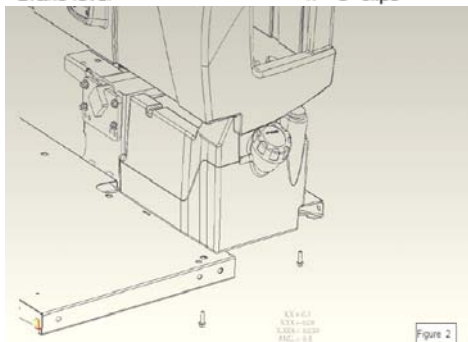

Figure 2
**Step 6.** Remove the seats from the seat base. Remove the 8 flange screws securing the seat base to the floor plate and front frame. Remove the seat base. (Figure 2.) Note: If the vehicle is equipped with a Roll Over Protection System it will need to be removed as this cab is ROPS certified. For Workman MDE only: Removal of seat base to gain access to fuel tank is not needed. But needs to be loose for seat belt mounting.